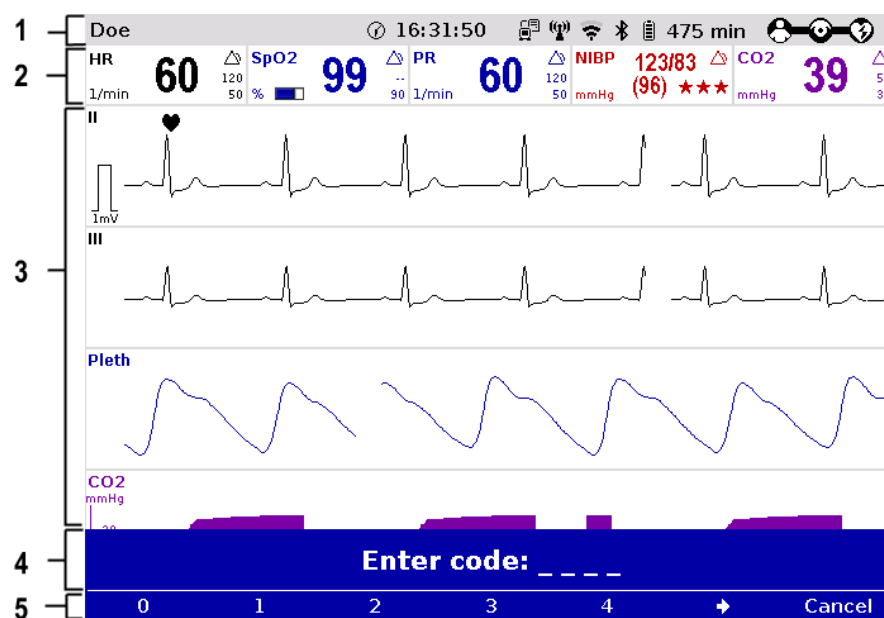

Fig. 4-2 Monitoring unit, example of basic structure of the screen pages
Status-/alarm line The following data are displayed in the status-/alarm line (Fig. 4-2, item 1):
Parameter area The measured parameters and the configured alarm limits are displayed in the parameter area (Fig. 4-2, item 2) of the display.
Curve and display area Up to 6 curves of measured values of monitoring functions can be displayed in the curve and display area (Fig. 4-2, item 3) of the display.
Message line In the message line (Fig. 4-2, item 4) of the screen, additional interactions with the user interface are displayed, e. g. to enter the PIN code for the OPERATOR user level or to enter patient data).
Softkey line The current function assignment of the softkeys is displayed in the softkey line (Fig. 4-2, item 5).